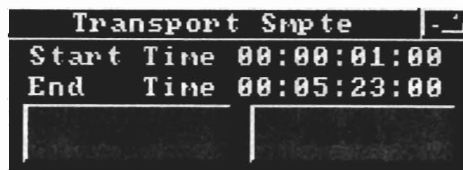

Figure 4. Transport SMPTE
8. Before you can record, you must click Record and then the Play button in Transport. This will bring up the Transport SMPTE window, Figure 4. The Start and End times are entered from the Transport's Options Menu. You only need to click Play if you want to ignore the SMPTE trigger and begin playing immediately. Otherwise, Transport will trigger when the SMPTE time is received.